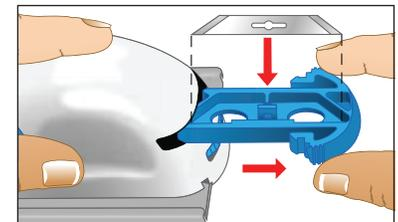
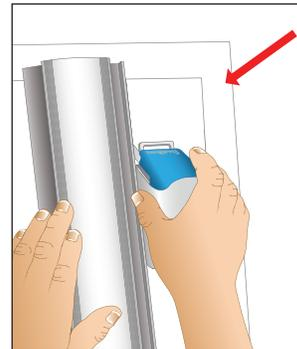

Fig. 2
Fig. 3
NOTE: Spare blades can be stored in the Blade Storage Drawer, located on the back side of the Cutter. To open, squeeze the Blade Storage Drawer equally from left and right with fingers placed on the drawer ridges (**Fig. 2**).
- 4 With the blade positioned off the top edge of the foamboard, push the Cutting Head downward. With Cutting Head fully depressed, pull the Cutter backwards along the Channel Rail and continue along the length of the foamboard (**Fig. 3**).
- 3 Position the Channel Rail on the foamboard. Hook the **Channel Guide** onto the rail. Align the front and back tick marks to the previously marked line (**Fig. 2 & Fig. 3**).
- 1 Loosen the **Beam Adjustment Knob** and set the **Scaled Cutting Beam** to the desired circle diameter. Read the scale to the left of the **Beam Block**. Tighten the **Beam Adjustment Knob** (**Fig. 2**).
- 3 Position the centering pin on the desired location. Grip the Circle Cutter with one hand on the **Hand Grip Ridges**, the other hand on the **Cutting Knob**. Turn the **Cutting Handle** clockwise in a continuous motion (**Fig. 3**). The **Board Depth Pin** will lower the same depth as the blade progressing through the board. You will feel additional resistance as the blade reaches the scrap foamboard under your work. Your circle cut is now complete.